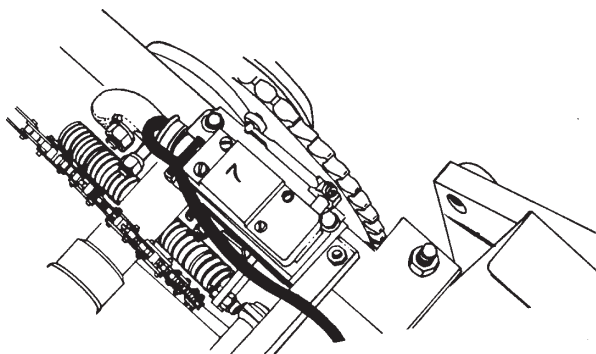

Figure 106 - LS-7 Knotter Reverse Safety Switch
LS-7 (see Figure 106 page 53) prevents the knotter from rotating in reverse at those points at which the bill hook would rotate. This prevents possible damage to the knotter due to reverse bill hook rotation.
1. To increase the duration of the non-reversing portion of the knotter cycle, lower the switch roller arm. To decrease this duration, raise the switch roller arm (see Figure 106).